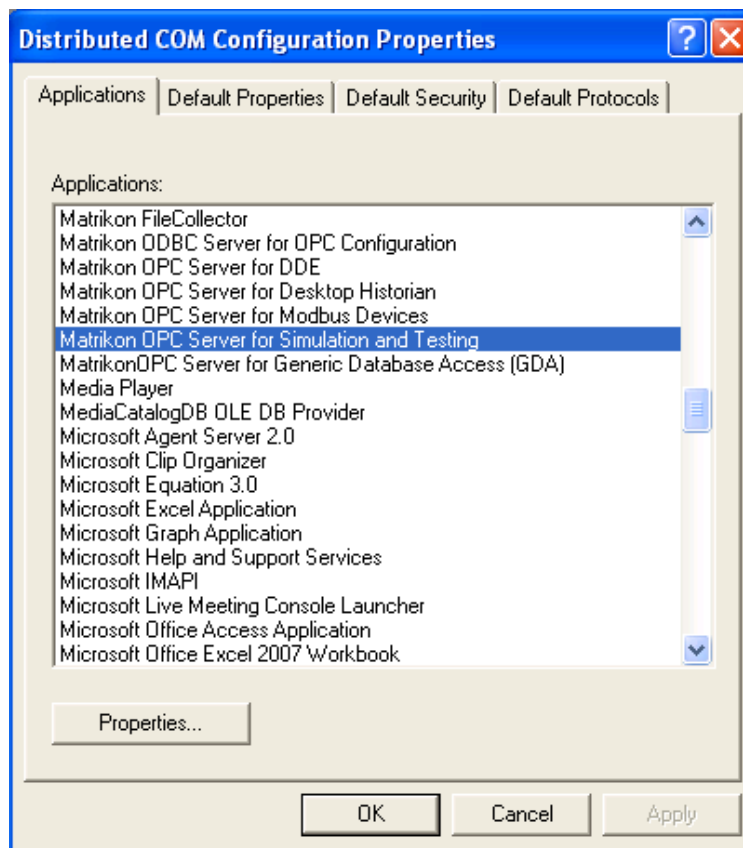

Figure 68 - Distributed COM Configuration Properties Window
3. The **Distributed COM Configuration Properties** window (Figure 68) appears.